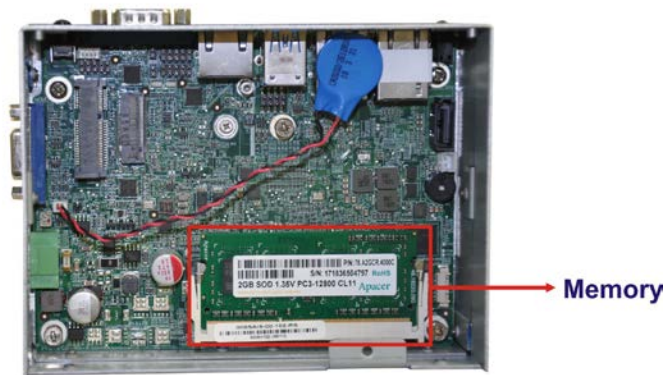

Figure 3-4: SO-DIMM Socket
Step 2: Locate the SO-DIMM socket on the motherboard (**Figure 3-4**).